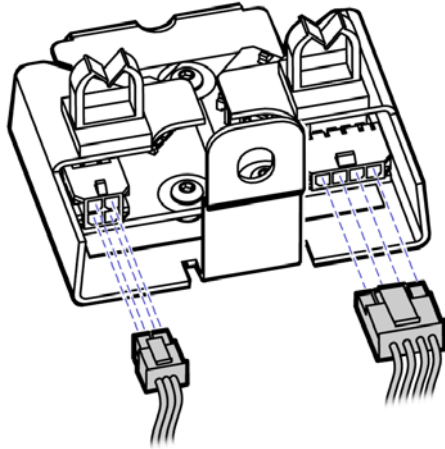

Figure 9-15: Disconnect or Connect Balance Sensor Assembly Harness Connectors
6. Lift EMI filter off locator pin and disconnect (2) balance sensor assembly harness connectors from bottom of EMI filter by holding down locking tab on connector. See Figure 9-15.
3. Position EMI filter and connect (2) balance sensor assembly harness connectors. See Figure 9-15.